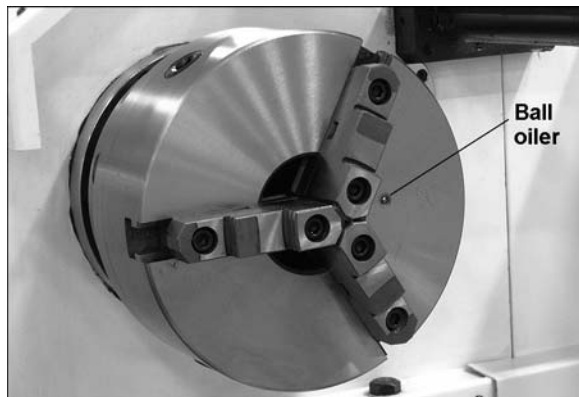

Figure 8
1. **Chuck** – In addition to the lubrication already described in *section 8.3*, daily lubricate the chuck with SAE 20W oil through the ball oiler, shown in Figure 8.